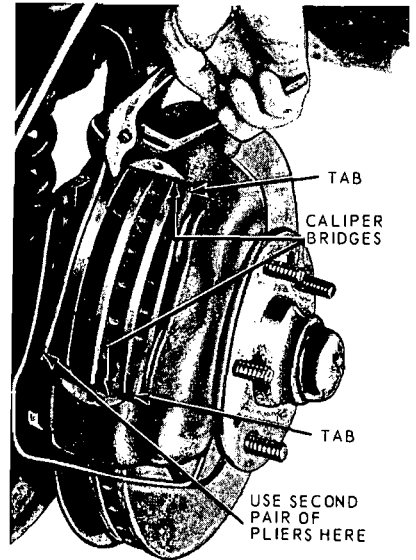

FIG. 18—Removing Disc Brake Shoe and Lining Assembly—Typical
4. Grasp the metal flange on the outer end of the shoe with two pairs of pliers and pull the shoe out of the caliper (Fig. 18).
Be sure that the tabs on the shoe flanges seat fully against the caliper bridges (Fig. 18).